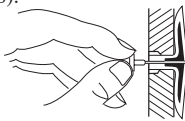

Figure 7 - Popping Open Anchor Wings For Thin Walls
4. For thin walls [1/2" (1.3 cm) or less], insert red key into wall anchor. Push red key to "pop" open anchor wings (see Figure 7). **IMPORTANT:** Do not hammer key! For thick walls [over 1/2" (1.3 cm) thick] or solid walls, do not pop open wings.